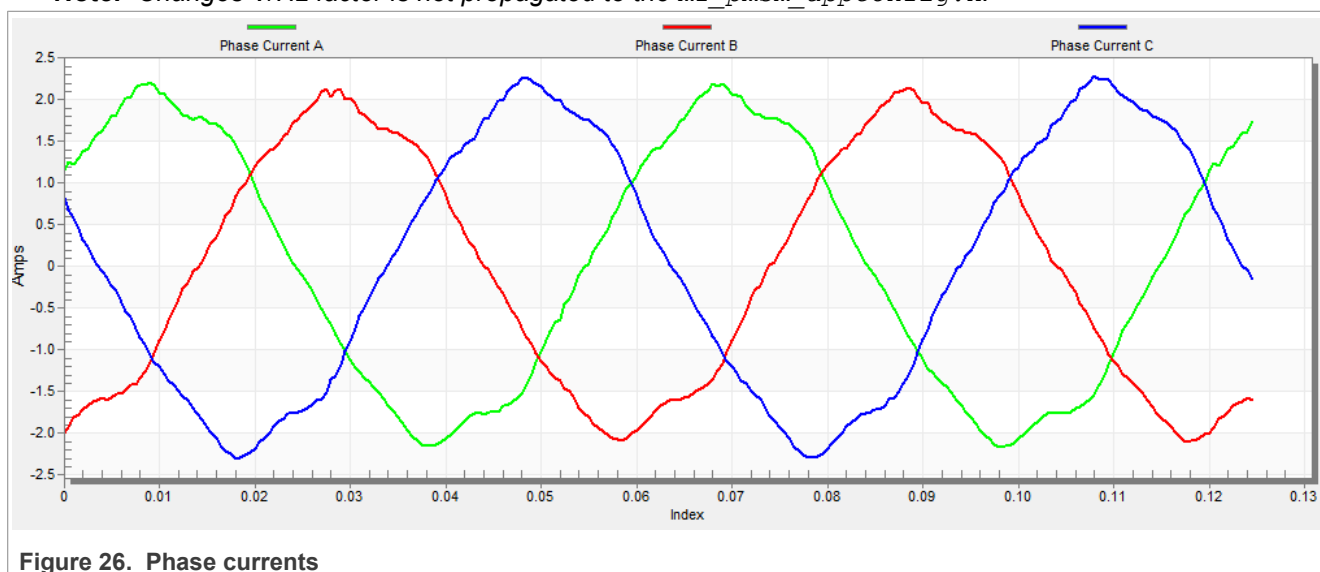

Figure 26. Phase currents
5. The optimal ratio for the V/Hz profile can be found by changing the V/Hz factor directly using the "M1 V/Hz factor" variable. The shape of the motor currents should be close to a sinusoidal shape (Figure 26). Use the following equation for calculating V/Hz factor: